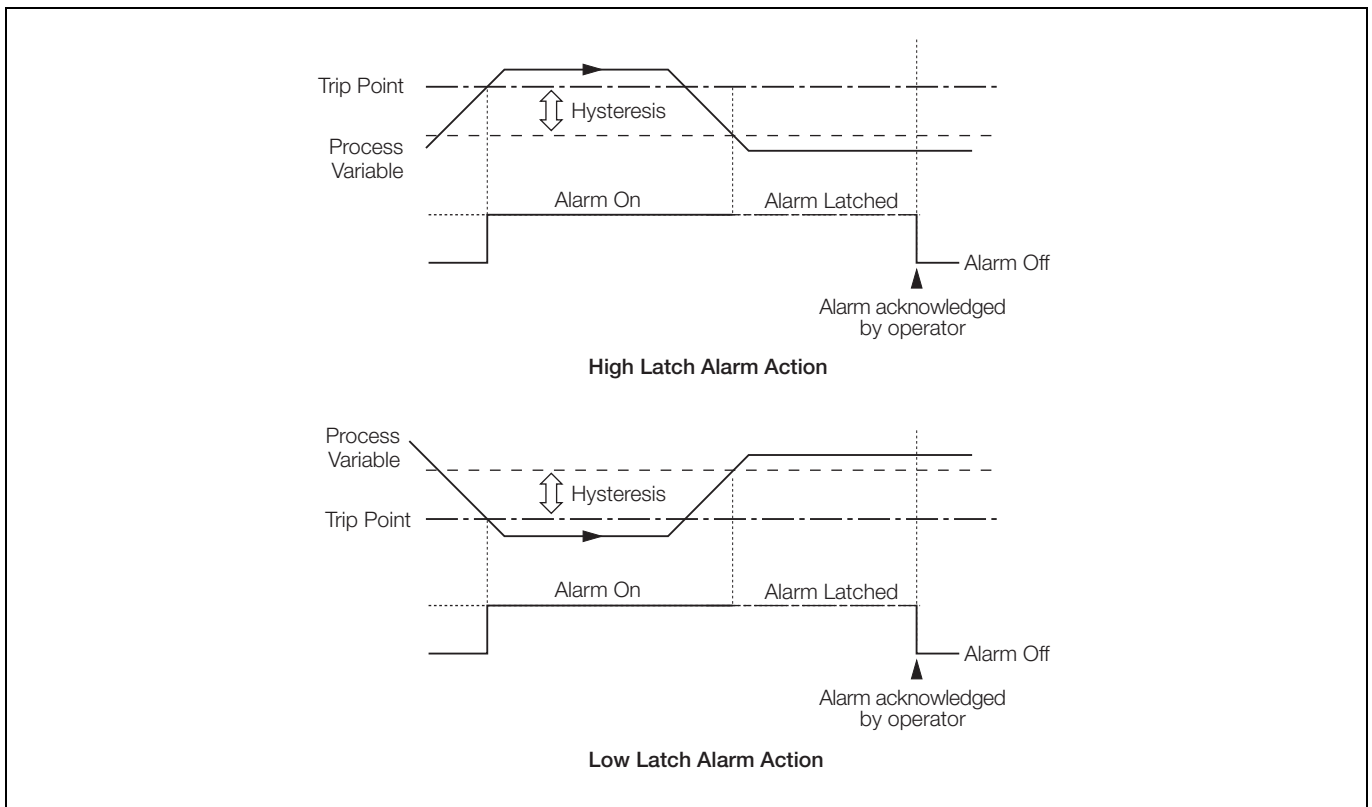

Fig. 4.12 High/Low Latch Alarms
- High/Low latch – see Fig. 4.12, page 85